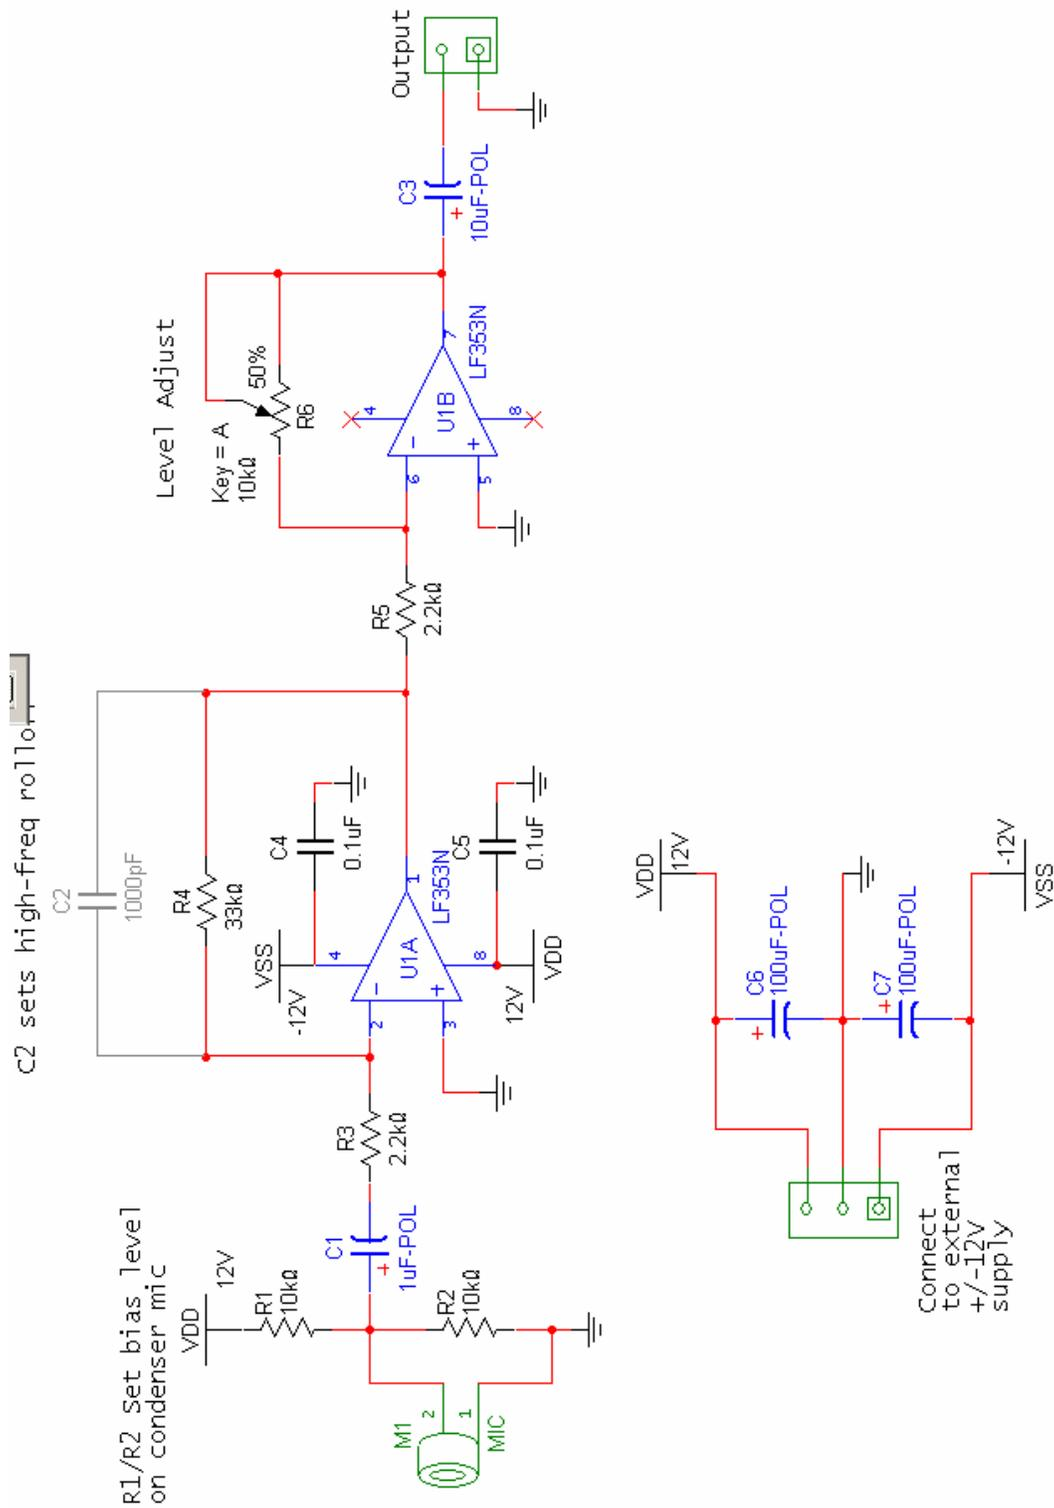

Figure 1-1 – Schematic for the microphone preamplifier.
- With reference to the full schematic in Figure 1-1, calculate the lower cutoff frequency imposed by capacitors C1 and C2 and the resistances in the circuit:
- Configure your solderless breadboard with +/- 12 Volt and ground connections using the bench power supply. Add the large 100µF supply capacitors (C6 and C7) onto your breadboard as shown in the schematic in Figure 1-1.
- Now temporarily add in capacitor C2 (refer to the full schematic in Figure 1-1). This introduces another pole in the system to reduce the high-frequency gain (prelab calculation). Sweep the frequency to determine the resulting upper cutoff frequency, and record this in the lab record along with the voltage gain in the passband (around 1 kHz). Remove C2 when you are finished.
- Add in the remaining circuit elements according to the schematic in Figure 1-1. This last step just adds a simple inverting stage that can amplify or attenuate the signal. This will be helpful later to adjust the microphone signal level for a desired amplitude to drive the AM modulator.